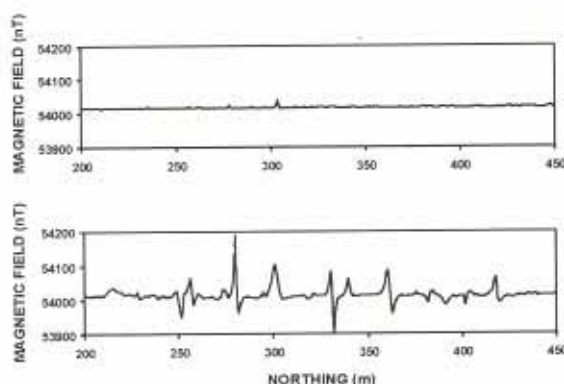

Figure 16. Two magnetic profiles, showing low amplitude, 'noise only' signature (A) and noise plus dipolar features characteristic of UXO (B).
3. A pattern recognition algorithm then detects dipole and monopole sources within the recorded line data that exceed the determined noise envelope. Figure 16 contains two magnetic profiles; the first shows the low amplitude 'noise only' signature, while the second also contains a pattern of dipolar features characteristic of UXO contamination. Counting such occurrences per unit transect length and dividing by the appropriate search diameter calibration factor provides a measure of ferrous items per unit area.